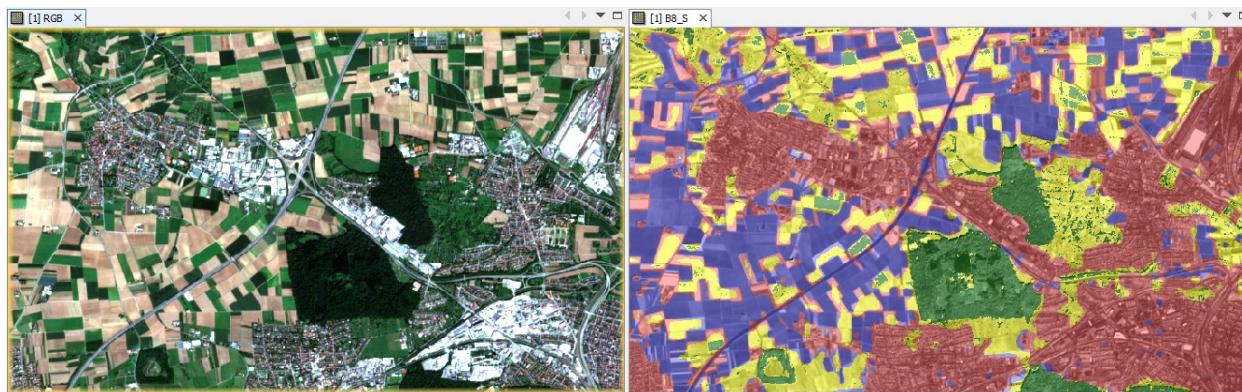

Figure 36: Masking of landcover classes with the Mask Manager
It is important that the mask descriptions are not overlapping. It is however also possible to select two masks and combine them with logical expressions: Union (OR) , Intersection (AND) , difference , or complement . Figure 36 shows how the result of the mask definitions looks like.